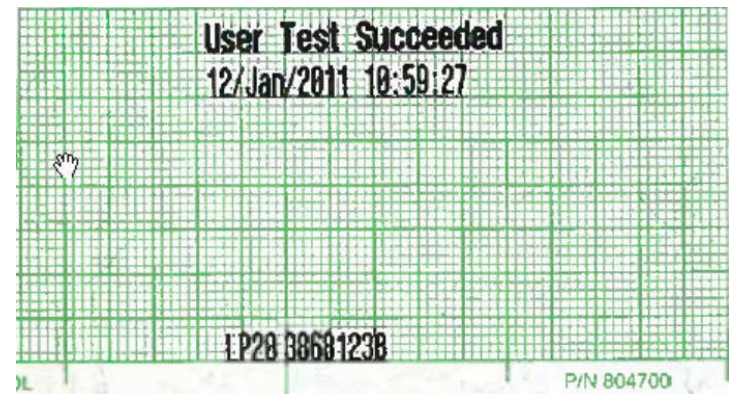

Figure 1.4: User Test and Date/Time Printout
5. Confirm the printed results that the device passes the user test and that the correct date and time values are displayed on the printout as shown in Figure 1.4.